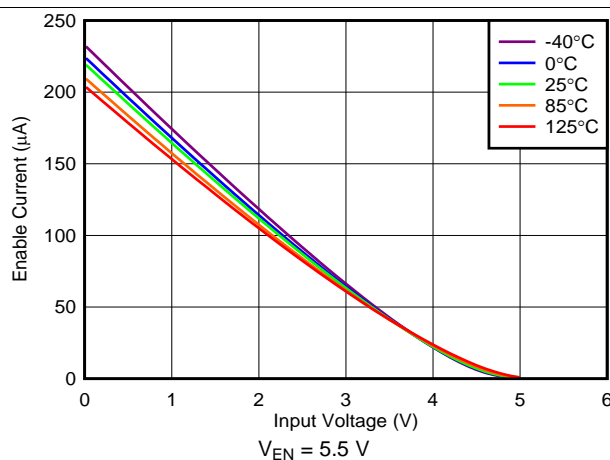

图 23. I_{EN} vs V_{IN}
The EN pin is independent of the input pin (IN), but if the EN pin is driven to a higher voltage than V_{IN} , the current into the EN pin increases. This effect is illustrated in 图 23. When the EN voltage is higher than the input voltage there is an increased current flow into the EN pin. If this increased flow causes problems in the application, sequence the EN pin after V_{IN} is high, or to tie EN to V_{IN} to prevent this flow increase from happening. If EN is driven to a higher voltage than V_{IN} , limit the frequency on EN to below 10 kHz.